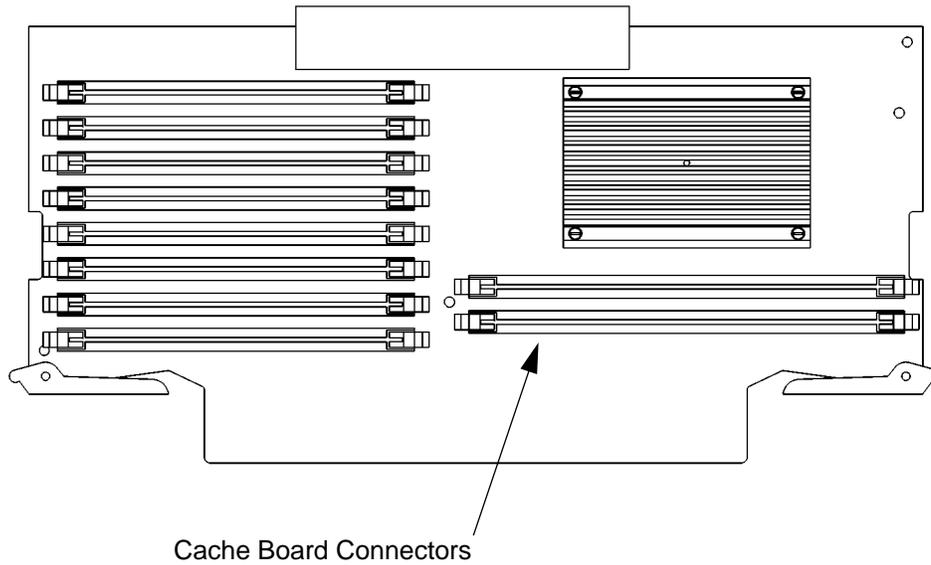

Figure 42 **Cache Boards Location**
- 1 Locate the cache board connectors on the CPU board, as shown in Figure 42.